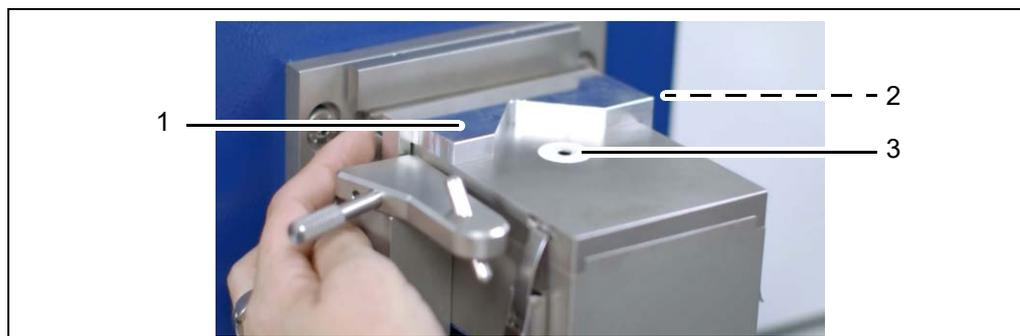

Fig. 9-10 Adjustment aid and boron nitride collimator (example)
1. Place the adjustment aid (1, fig. 9-10) for the wire adapter onto the spark stand plate and fix the adjustment aid using the knurled screw (2).
2. Insert the boron nitride collimator (3) into the spark stand opening.